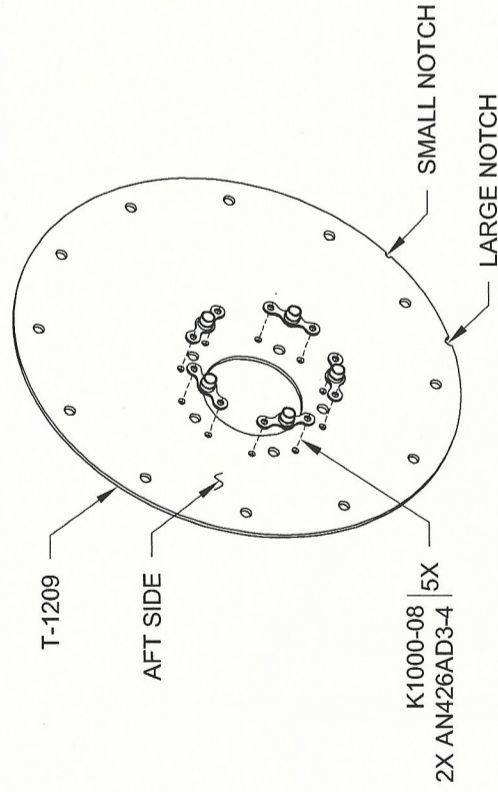

FIGURE 1: SENDER PLATE ASSEMBLY
Step 2: Rivet nutplates to the T-1209 Res Sender Plate as shown in Figure 1.